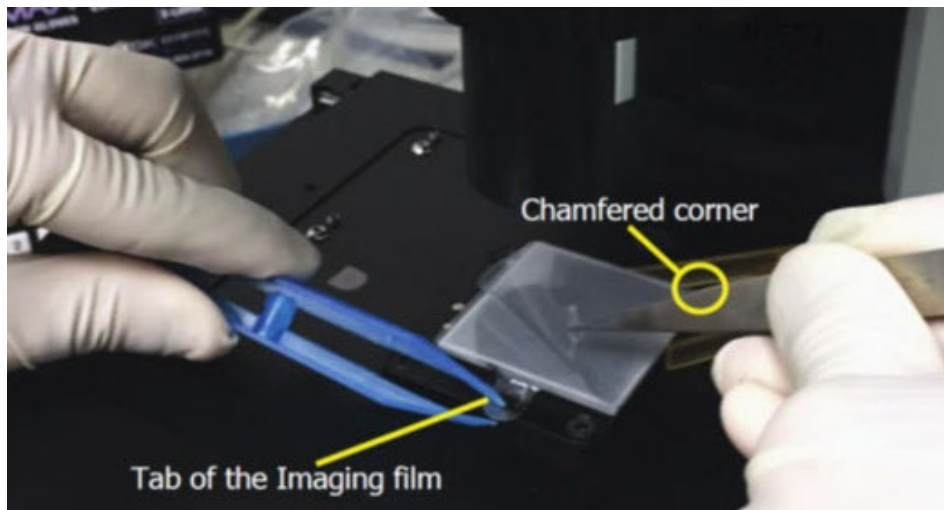

Figure 14. Seating the chip on the microscope holding platform.
8. Place the chip on the microscope Holding Platform with the chamfered (notched) corner facing the upper right corner (Figure 14, below).
9. Ensure the chip is perfectly flat and seated square relative to the pins before removing the second release liner. Peel off the top layer release liner of the Optical Imaging Film using tweezers (Figure 14, above). The chip will remain sealed by the double-sided intermediate film layer.